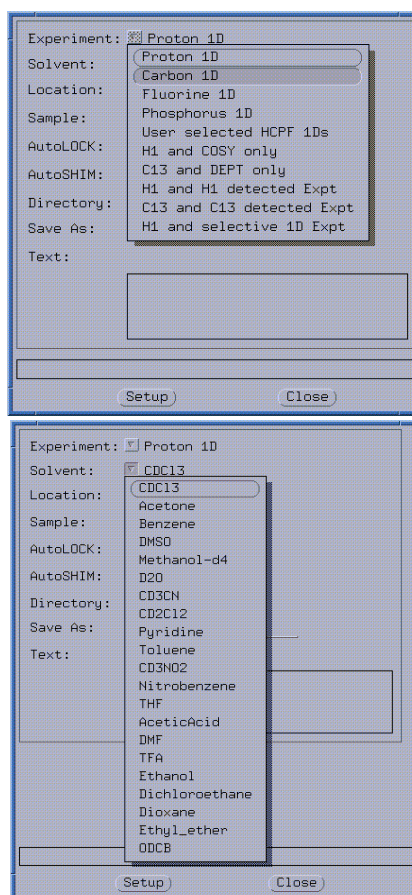

Figure 9. *GLIDE* Setup for Carbon 1D
3. Right click the **Experiment** drop-down menu and select **Carbon 1D**, as shown in Figure 9.
4. From the **Solvent** menu, select the appropriate lock solvent, as shown in Figure 9.